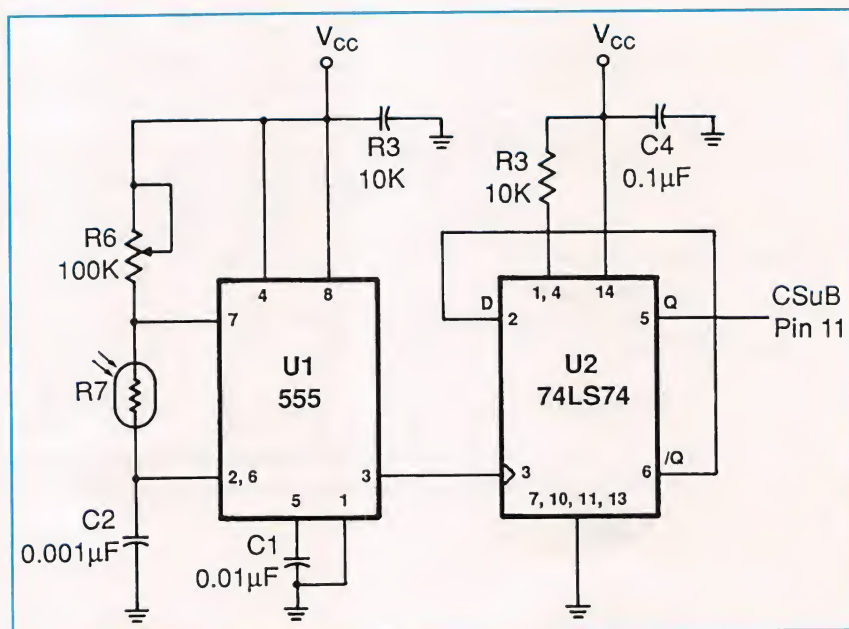

Fig. 3. Input circuitry for fuzzy-logic interface.
• **Light-to-Frequency Converter.** The 555 timer in the Fig. 3 circuit performs the conversion from light to frequency. The resistance of photo-sensor *R7* is inversely proportional to the intensity of the light striking it. As the light increases in brightness, the output frequency of 555 timer *U1* also increases. Unfortunately, the sensor's resistance not only affects the frequency of the output, but it also varies it's duty cycle. The PC loses track of the signal when it can no longer read at least one high and one low per cycle. For maximum range, edge-triggered flip-flop *U2* reduces the original frequency by half and achieves a 50% duty cycle.